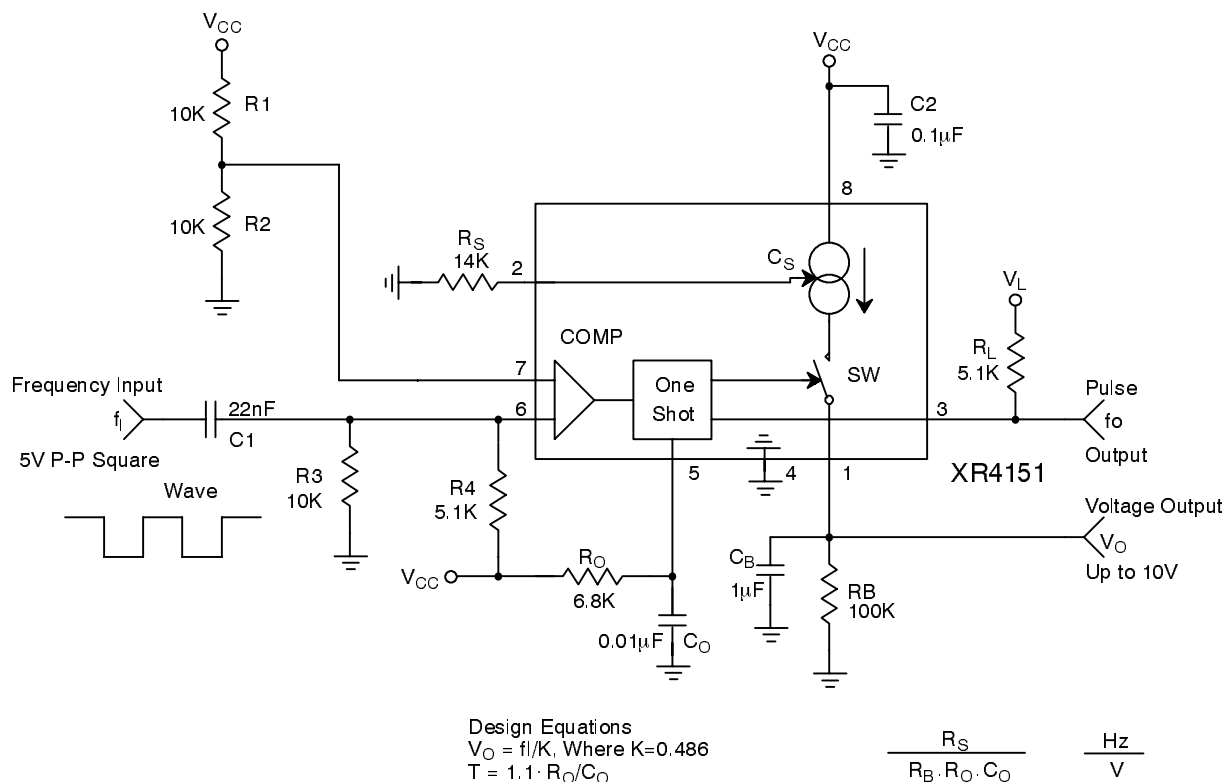

Figure 4. Frequency to Voltage Converter
The XR4151 can be used as a frequency-to-voltage converter. *Figure 4* shows the single-supply FVC configuration. With no signal applied, the resistor bias networks tied to pins 6 and 7 hold the input comparator in the off state. A negative going pulse applied to pin 6 (or positive pulse to pin 7) will cause the comparator to fire the one-shot. For proper operation, the pulse width must be less than the period of the one-shot,  $T = 1.1 R_0 C_0$ . For a 5Vpp square-wave input the differentiator network formed by the input coupling capacitor and the resistor bias network will provide pulses which correctly trigger the one-shot. An external voltage comparator can be used to “square-up” sinusoidal input signals before they are applied to the XR4151. Also, the component values for the input signal differentiator and bias network can be altered to accommodate square waves with different
- I. Design a precision VFC (from *Figure 4*) with  $f_0 = 100kHz$  and  $V_{IO} = -10V$ .